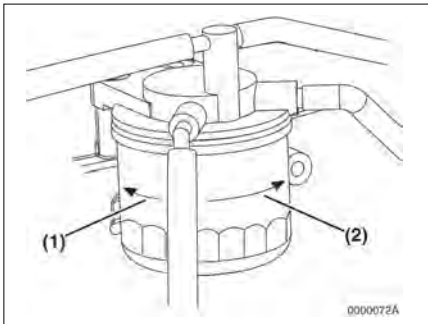

Figure5-13
3. Remove the fuel filter with a filter wrench, turning it to the left (**Figure5-13,(1)**). When removing the fuel filter, carefully hold it to prevent the fuel from spilling. Wipe up all spilled fuel.
5. Install the new fuel filter. Turn to the right (**Figure5-13, (2)**) and hand-tighten it only until it comes in contact with the mounting surface. Tighten to 14-17 ft•lb (19.6-23.5 N•m; 2.0-2.4kgf•m) or one additional turn using the filter wrench.